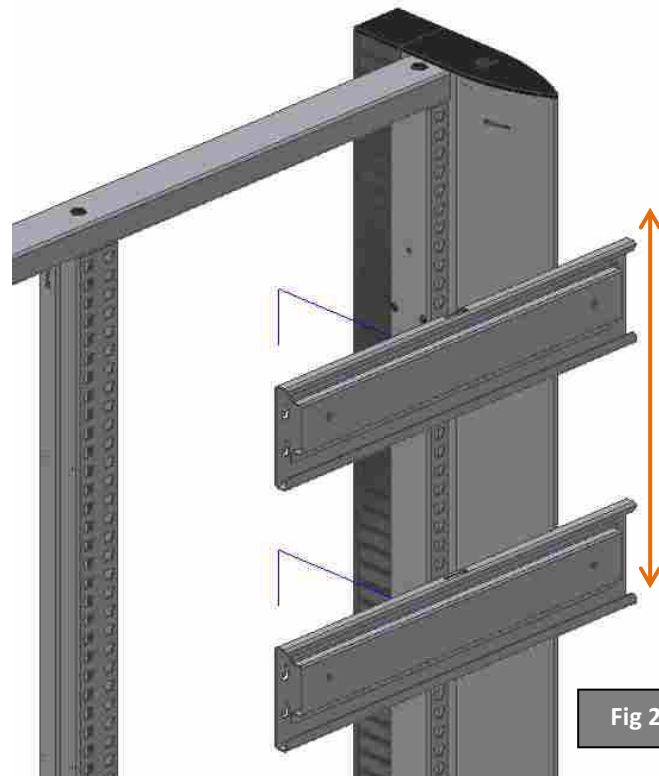

Fig 2
STEP 1 – Mount the **TFT supports** on the **grooved bars** (see assembly in chapter 21) (Fig.2). The total distance between **TFT supports** is the same as the full height of the **wall rack**.